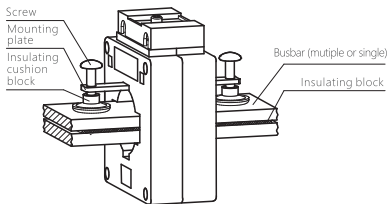

Figure 19 Busbar Fixed Type
7.1 The installation location and method of the current transformer should comply with the provisions of Article 3 and Figures 19~22.